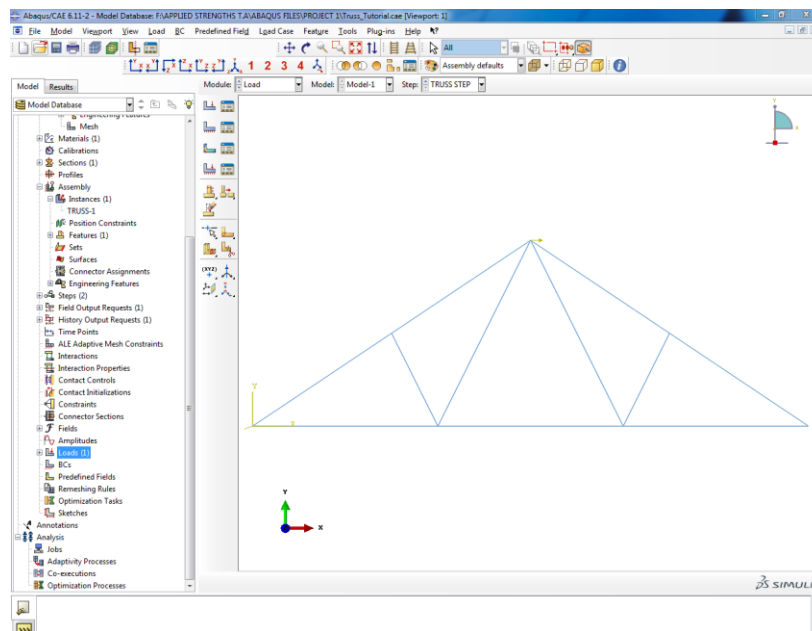

Figure 25. 1000-lb Load
- Click OK. If this step was done properly, then a small yellow arrow will appear at the node where the force was applied and points in the positive X direction (Figure 25).